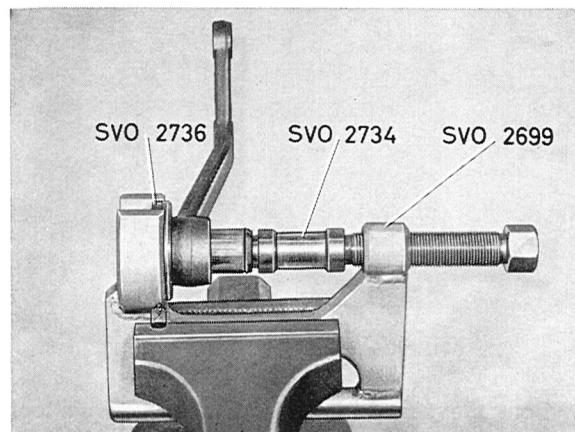

Fig. 6-65. Removing rubber bushing, relay arm
4. Secure the press tool 2699 in a vise and press out the bushing with counterhold 2736 and drift 2734 (Fig. 6-65).